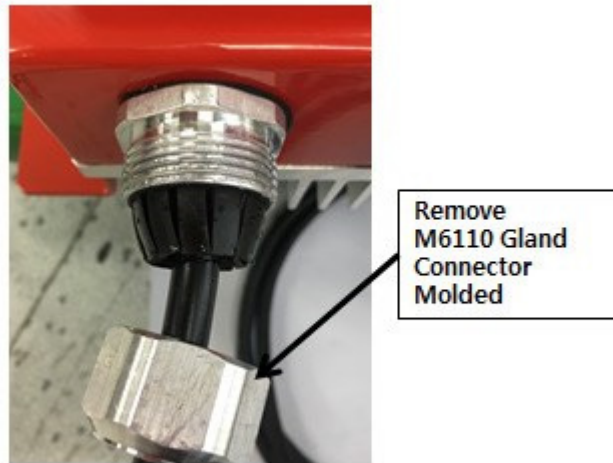

Figure 5-6: Remove the Power Connector Cap
1. Remove the M6110 Gland Connector Molded from the AC 110V power connector on the Signal Booster, Figure 5-6.